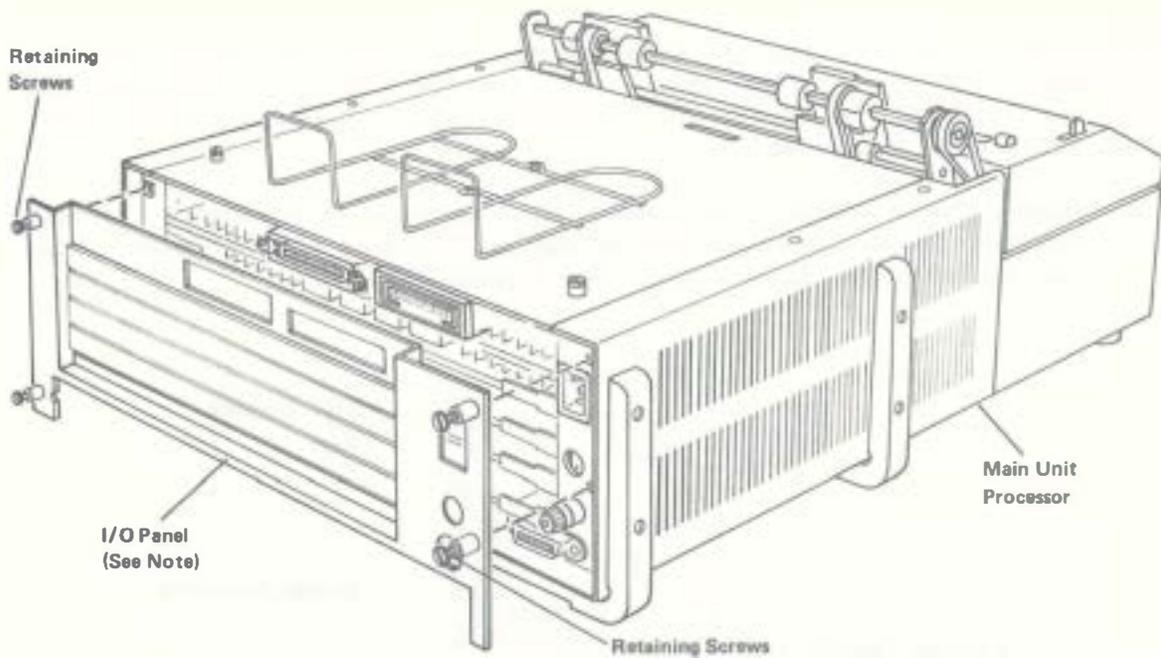

Figure 5-3. Processor Unit Back Plate.
8. Remove the processor unit back plate by loosening the four retaining screws in the plate (all processor units). (On earlier processor units you also have to remove the eight screws on the serial and parallel ports.) Pull the back plate away from the processor unit. See Figure 5-3.
See Figure 5-1 and Figure 5-3. Replace the eight screws on the serial and parallel ports (earlier processor units).
3. Remove the processor unit back plate by loosening the four retaining screws in the plate (all processor units) or removing the eight screws on the serial and parallel ports (earlier processor units). See Figure 5-3. Pull the back plate away from the processor unit.
3. Place the back plate on the processor unit. Be sure that the spring-loaded CRT display cable connector clips are not behind the back plate and then secure the plate by tightening the retaining screws. See Figure 5-3. Replace the eight screws on the serial and parallel ports (earlier processor units).